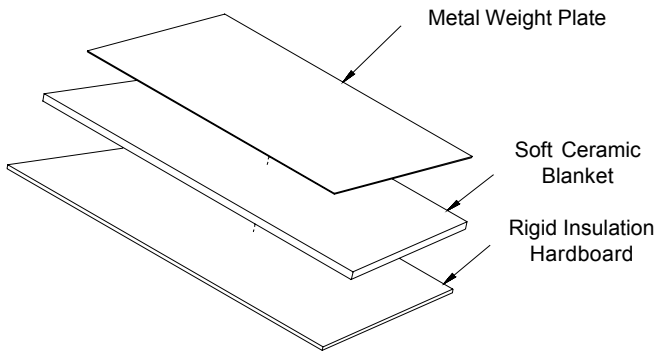

FIGURE 9 - TOP VIEW - Metal Weight Plate, Soft Ceramic Blanket, Rigid Insulation Hardboard
Step 6. Carefully take hold and remove the Metal Weight Plate, the Soft Ceramic Blanket and the Rigid Insulation Hardboard with both hands in a downward manner out of the fireplace (see Figures 9 and 10).